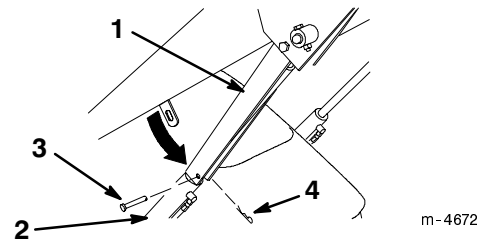

Figure 15
- Remove the hairpin cotter and clevis pin securing the cylinder lock to the loader arm (Fig. 15)
- Lower the cylinder lock over the cylinder rod and secure it with the clevis pin and hairpin cotter (Fig. 15).
- Rotate the cylinder lock up to the loader arm and secure it with the clevis pin and hairpin cotter (Fig. 15).